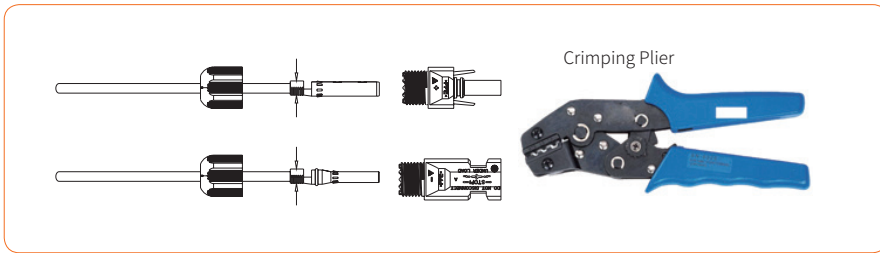

Figure 4-11
④ Insert the DC cable through the DC connector nut into the metal terminal and press the terminal with a professional crimping plier (pull back the cable with some power to check if the terminal is well connected to the cable), as shown in Figure 4-11: